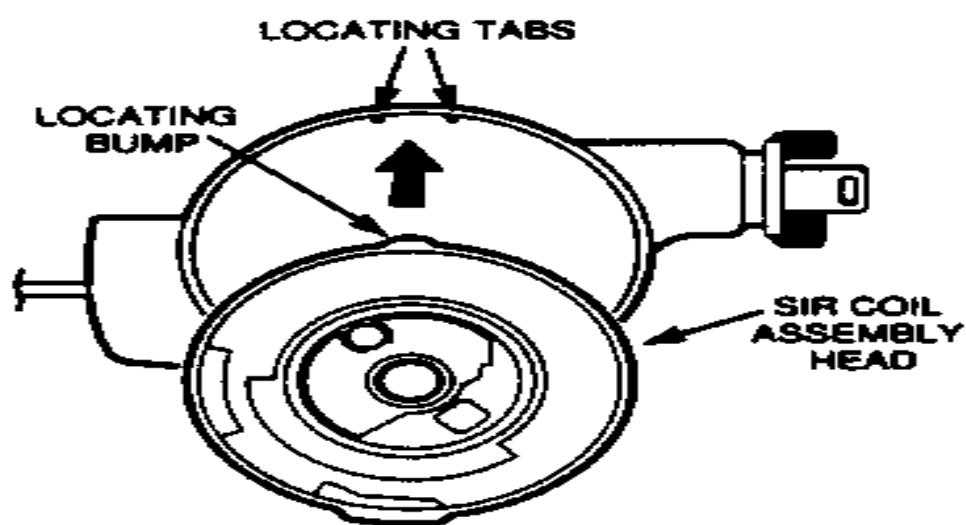

Figure 4 SIR Coil Assembly Head Seating Orientation
7. Align the SIR coil "locating bump" between the two tabs in the steering column cover (See Figure 4).